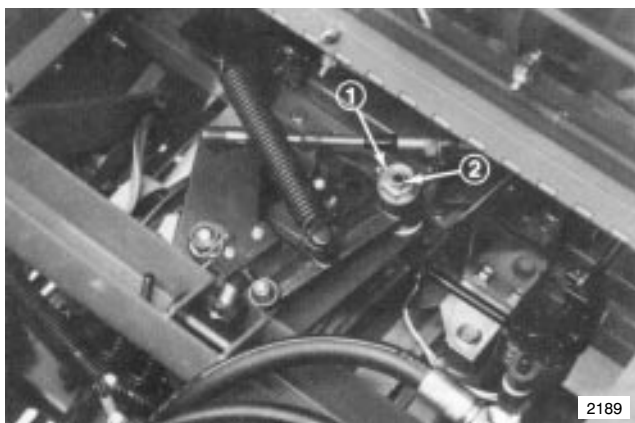

Figure 30
3. Loosen lock nut on adjustment cam (Fig. 30).
4. Start engine and rotate adjusting cam in either direction until wheels stop rotating (Fig. 30).
5. Stop engine and tighten lock nut to secure adjustment (Fig. 30).